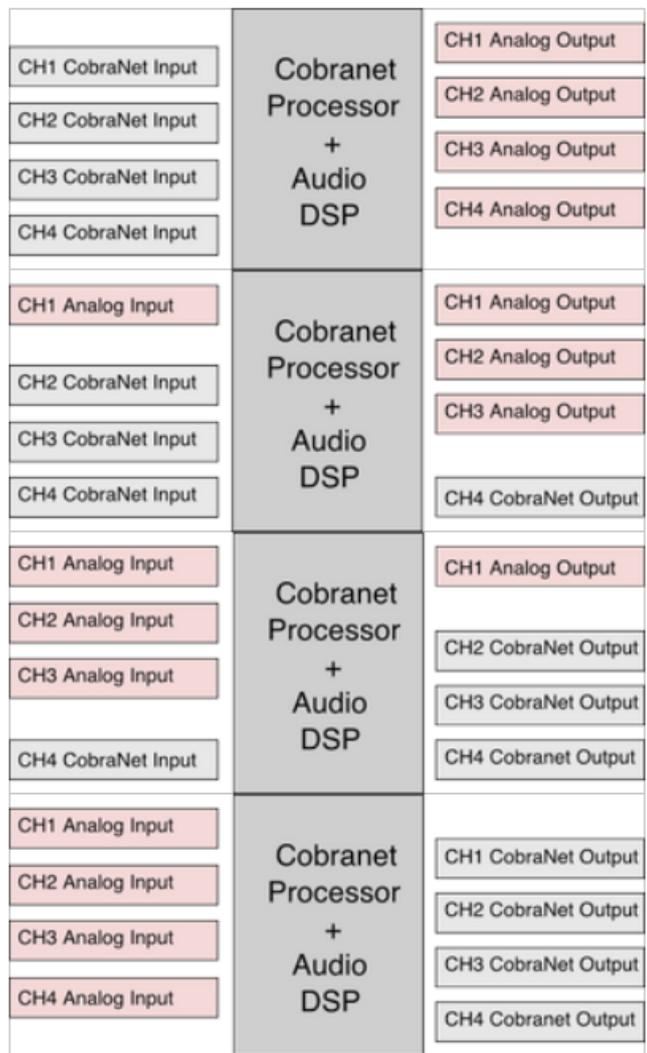

Figure 10: Possible configurations
1. Insert the part into the slot located on the sides of the equipment in the direction described, Figure 10.
3. The confirmation screen shown in Figure 10 will then be displayed, and the equipment will automatically restart.